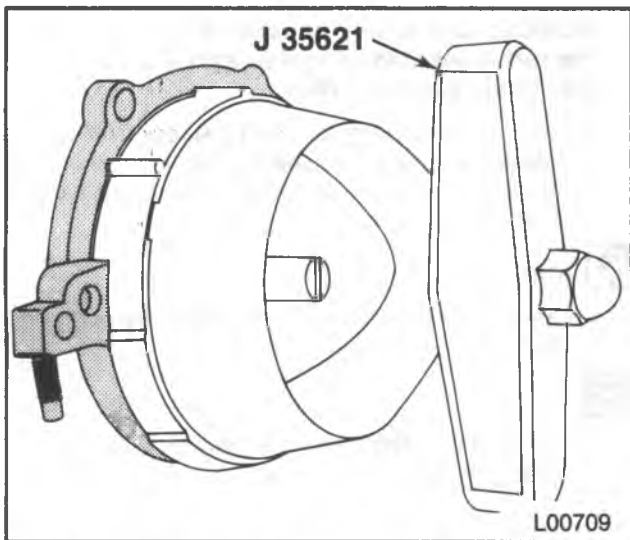

Figure 22 — Installing the Rear Crankshaft Oil Seal
Install or Connect (Figure 22)
1. Rear crankshaft oil seal (figure 22).